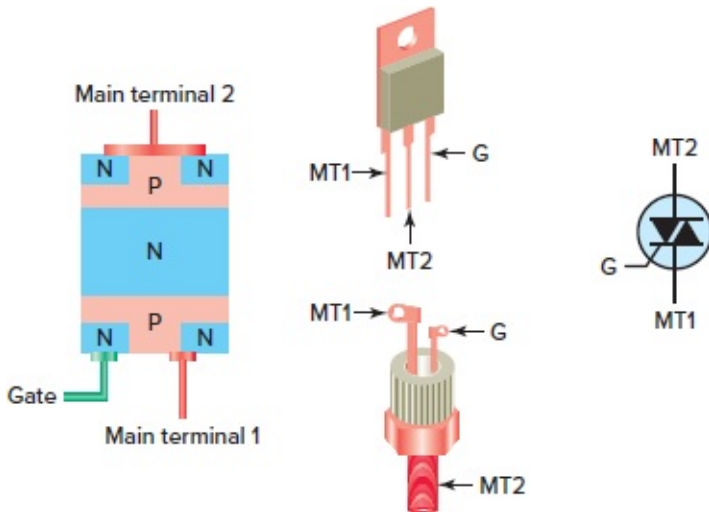

Figure 9-37 Triac.
The **triac** is a three-terminal device essentially equivalent to two SCRs joined in reverse parallel (paralleled but with the polarity reversed) and with their gates connected together. The result is a bidirectional electronic switch that can be used to provide load current during both halves of the AC supply voltage. Triac connections, shown in Figure 9-37, are called main terminal 1 (MT1), main terminal 2 (MT2), and gate (G). The leads are designated this way since the triac acts like two opposing diodes when it is turned on and neither lead always acts like a cathode or an anode. Gate current is used to control current from MT1 to MT2. From terminal MT1 to MT2 the current must pass through an NPNP series of layers or a PNP series of layers. The gate is connected to the same end as MT1, which is important to remember when you connect the triac control circuit. Terminal MT1 is the reference point for measurement of voltage and current at the gate terminal.